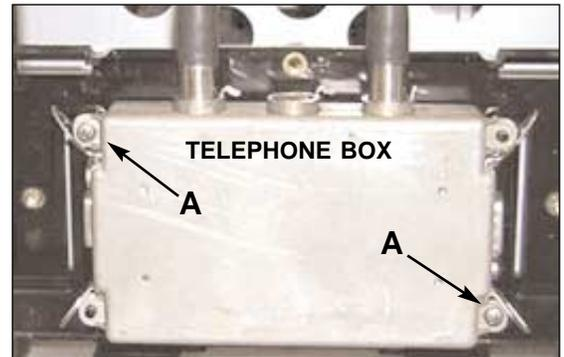

FIG. 316A: TELEPHONE BOX,
- (2) Disconnect cables. Remove telephone box by means of two screws (A) (see fig. 316A).